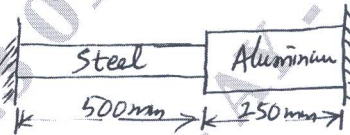

Fig.Q.2(b)
- b. A composite bar madeup of Aluminium & steel is held between two supports as shown in Fig.Q.2(b). The bars are stress free at temperature 42°C. What will be the stresses in the two bars with the temperature drops to 24°C if i) The supports are Unyielding ii)The supports come nearer to each other by 0.1mm. The cross-sectional area of steel bar is 160mm2 and that of aluminium bar is 240mm2,  $E_A = 0.7 \times 10^5 \text{ N/mm}^2$ ,  $E_s = 2 \times 10^5 \text{ N/mm}^2$ ,  $\alpha_A = 24 \times 10^{-6} \text{ per } ^\circ\text{C}$  and  $\alpha_s = 12 \times 10^{-6} \text{ per } ^\circ\text{C}$ .